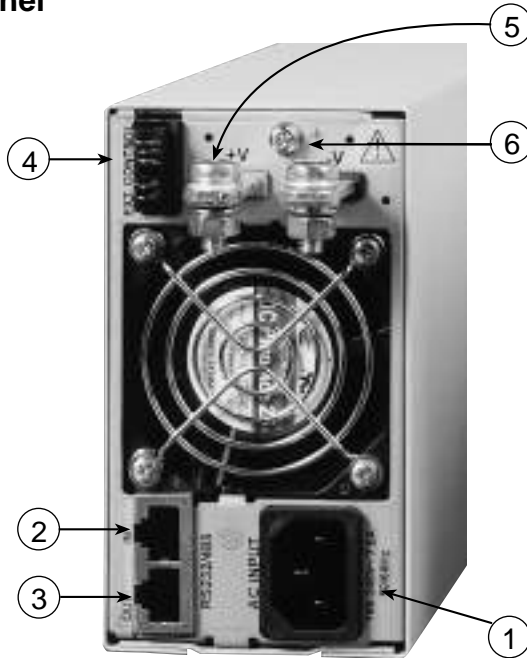
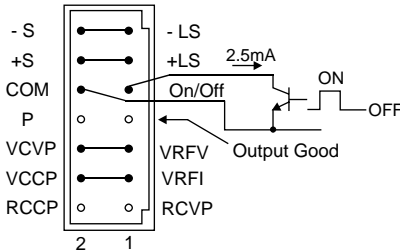
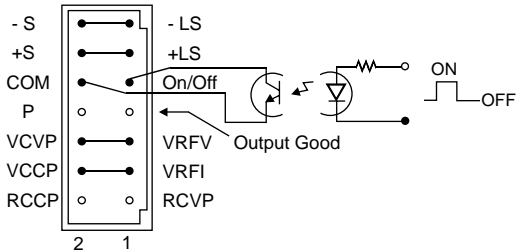

Fig. 4-2: Rear panel connections
Fig. 4-3: ON/OFF Control, references to - Sense. (ZUP rear panel view)
Fig. 4-4: Floating ON/OFF Control (ZUP rear panel view)
Contacts 9, 10 at the rear panel External Control connector (fig. 4-2, item 4) serve as ON/OFF terminals. Either short circuit or TTL '0' level enables the power supply output and open circuit or TTL '1' level disables the power supply's output. An open collector transistor can be used for the ON/OFF control as shown in fig. 4-3, with sink current ability of more than 2.5mA. Please note that pin 10 (COM) is internally connected to the - Sense potential, therefore for floating ON/OFF Control a photocoupler should be used as shown in Fig. 4-4.